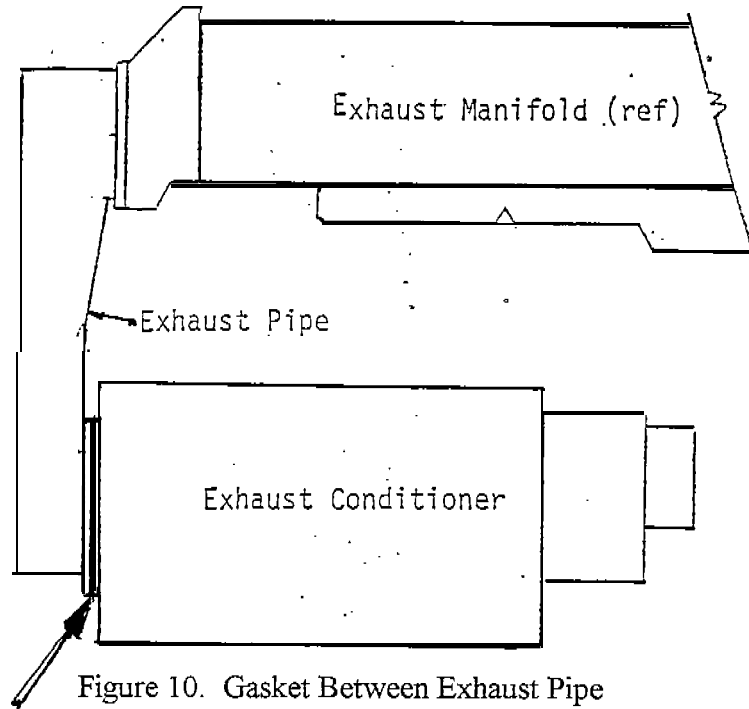

Figure 10. Gasket Between Exhaust Pipe
- (WEEKLY) 15. ( ) A bronze gasket is installed between the flange of the exhaust pipe and the flange of the exhaust conditioner as shown in Figure 10.